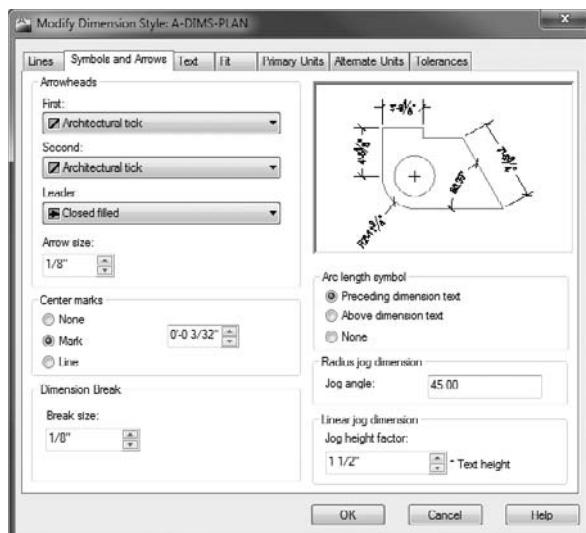

FIGURE 12.6 The Symbols and Arrows tab with the settings for the A-DIMS-PLAN style
4. Set the Arrow Size parameter to $1/8"$ (3.5). After the changes, the tab should look like Figure 12.6.